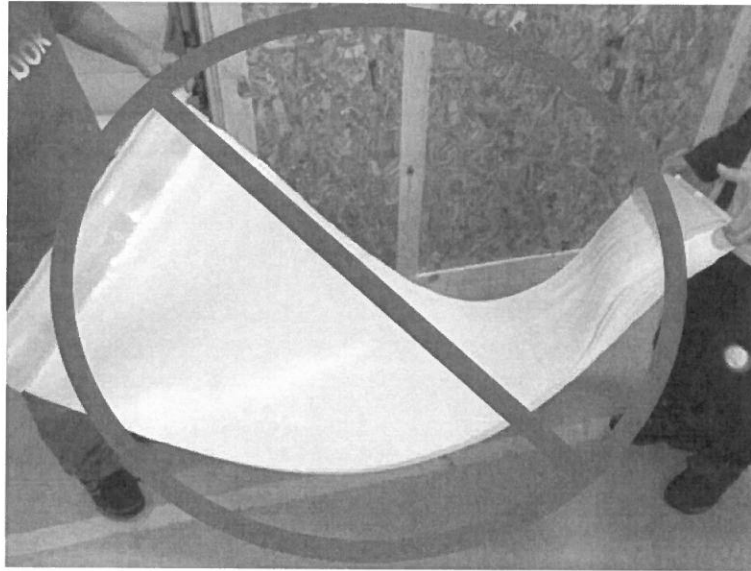

Figure 4-3 Incorrect handling of modules
- Do not twist the permeate headers in relation to each other to avoid creasing in the sheets. (See Figure 4-3 Incorrect handling of modules below).